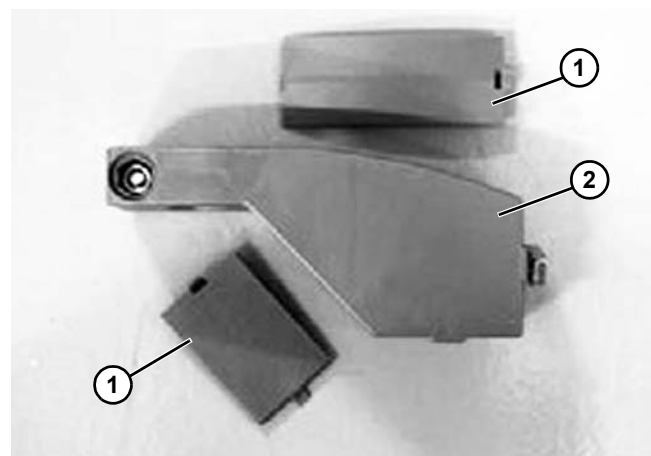

Figure 103
1. Open the upper and lower caps (**Figure 103, item 1**) and prepare the FGRB - 40 guide rail bracket (**Figure 103, item 2**) with T-bolt.